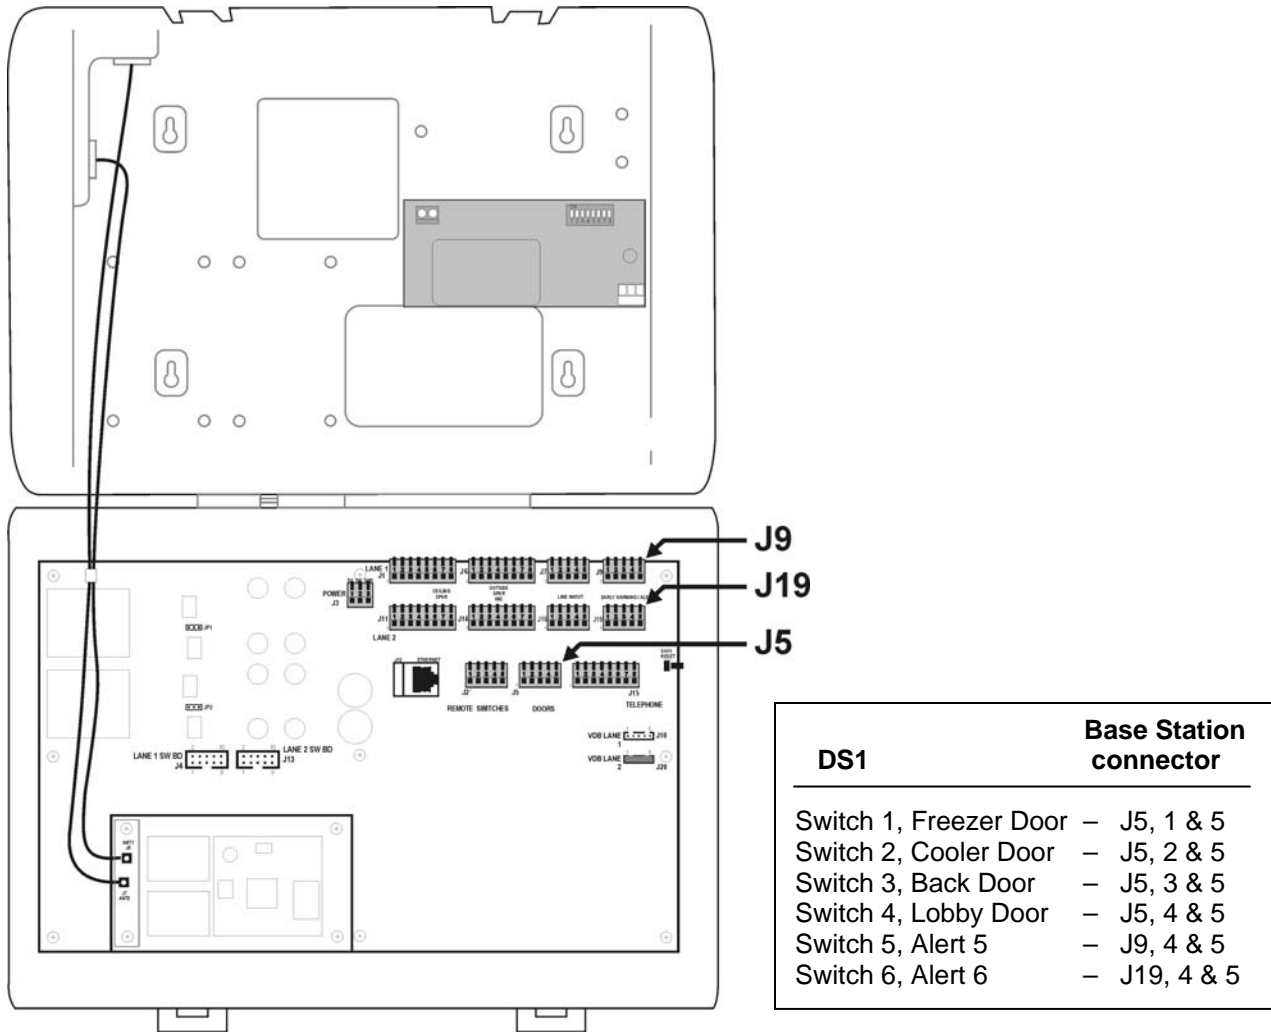

Figure 3. DS1 connections to ionIQ base station
- Route the cable to the base station and make the necessary connections as shown in Figure 3 on the back of this sheet.